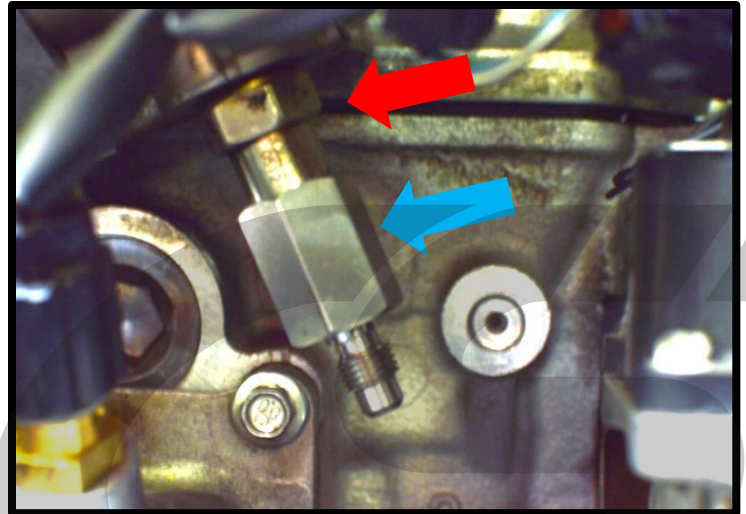

Figure 8a
- a) Install the CorkSport fuel pump fitting and fuel pump nut (shown in Figure 8a).
- b) Use a 17mm wrench to hold the pump (red arrow in Figure 8a).
- c) Torque the CorkSport 19mm fuel pump nut to **18-25 ft-lbs** (blue arrow in Figure 8a).